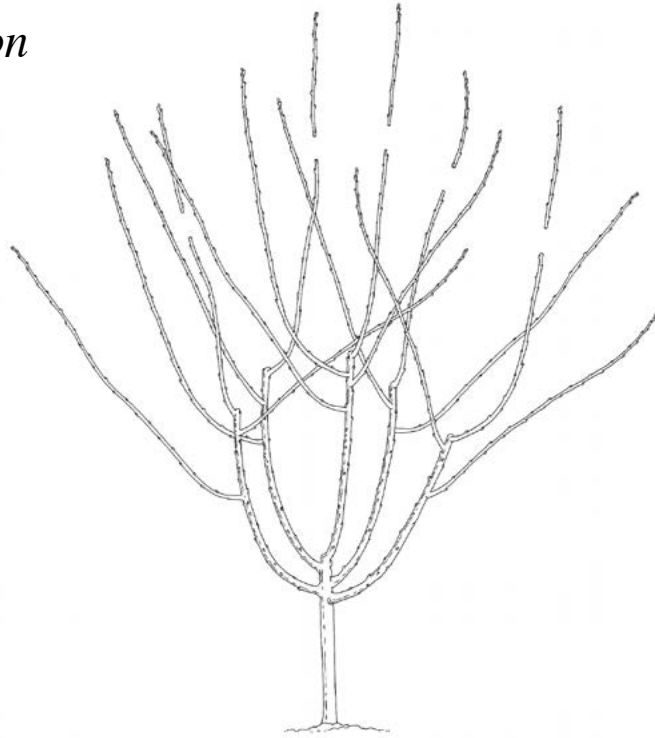

Figure 27
- Head this shoot approximately 24 inches from its previous season point of origin if ultimate tree height is to be less than 12 feet, or at 24–36 inches if tree height will be greater than 12 feet (Figure 27).